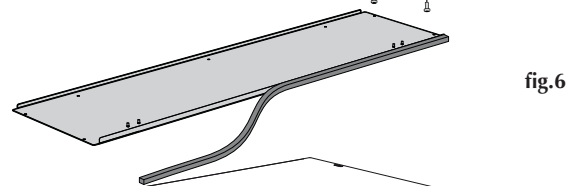

fig.6
- Stick the adhesive side of the gasket (provided) onto the bend of the ventilation compartment closure panel (fig.6)
- Stick the adhesive side of the gasket (provided onto the bend of the ventilation compartment closure panel) (fig.6)